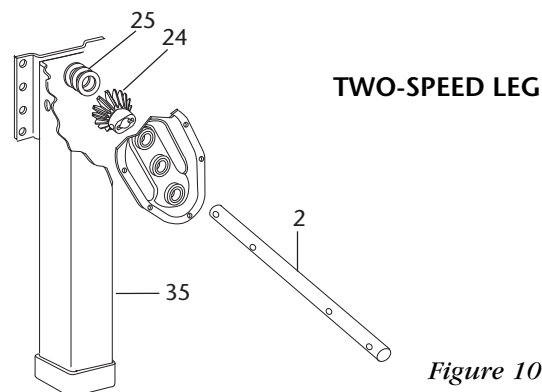
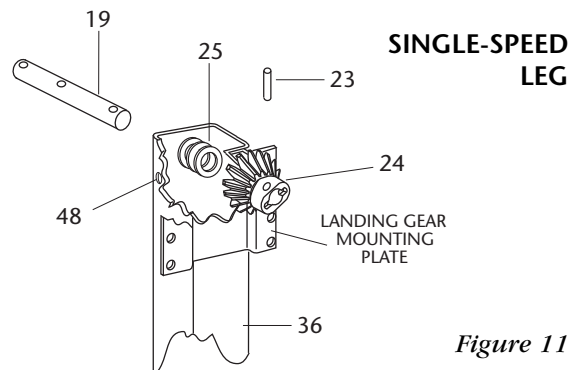

Figure 10
Figure 11
7. Position the bevel pinion gear (*Item 24*) on top of the bevel gear. For single-speed legs the bevel pinion gear should be on the opposite side of the landing gear mounting plate, as shown in *Figure 11*. For two-speed legs, the bevel pinion gear should be against the mounting plate side of the landing gear, as shown in *Figure 10*.
8. On two-speed legs, slide the drive shaft (*Item 2*) into the gearbox side of the outer leg (*Item 35*), through the bevel pinion gear, through any shims removed previously, and through the hole in the other side of the outer leg as shown in *Figure 10*.
On single-speed legs slide the bevel pinion gear shaft (*Item 19*) into the side of the outer leg (*Item 36*) opposite the landing gear mounting plate, through any shims removed previously, through the bevel pinion gear, and through the hole in the other side of the outer leg as shown in *Figure 11*.